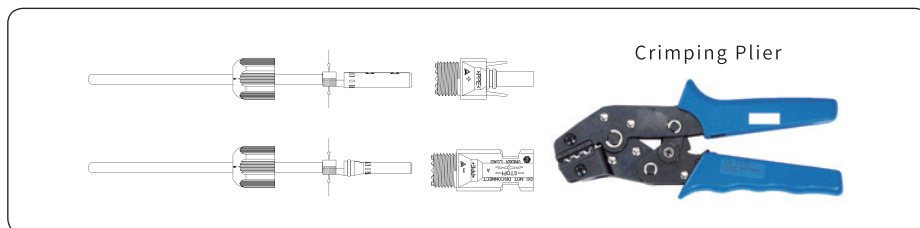

Figure 4-11
4) Insert the DC cable through the DC connector nut into the metal terminal and press the terminal with a professional crimping plier (pull back the cable with some power to check if the terminal is well connected to the cable), as shown in Figure 4-11: